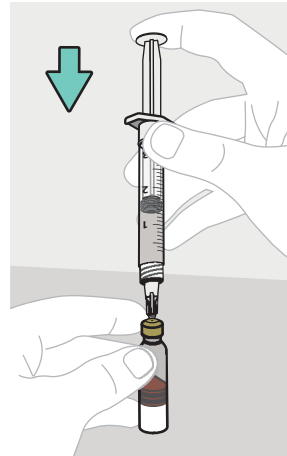

Figure 52
- a. Place the base of the empty cartridge upright on a flat surface and hold the cartridge with one hand. With the other hand, insert the syringe needle into the empty cartridge's septum (see Figure 52).